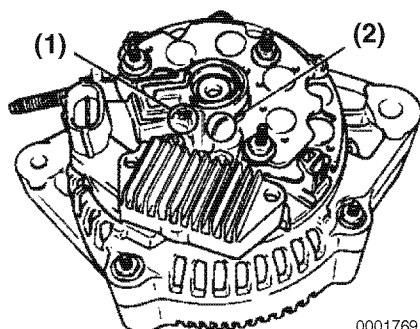

Figure 11-24
6. Make sure that the holder cover groove and the brush holder tab are aligned (**Figure 11-24, (1)**).
7. Make sure that the inner part of the holder cover is not pinched (**Figure 11-24, (2)**).